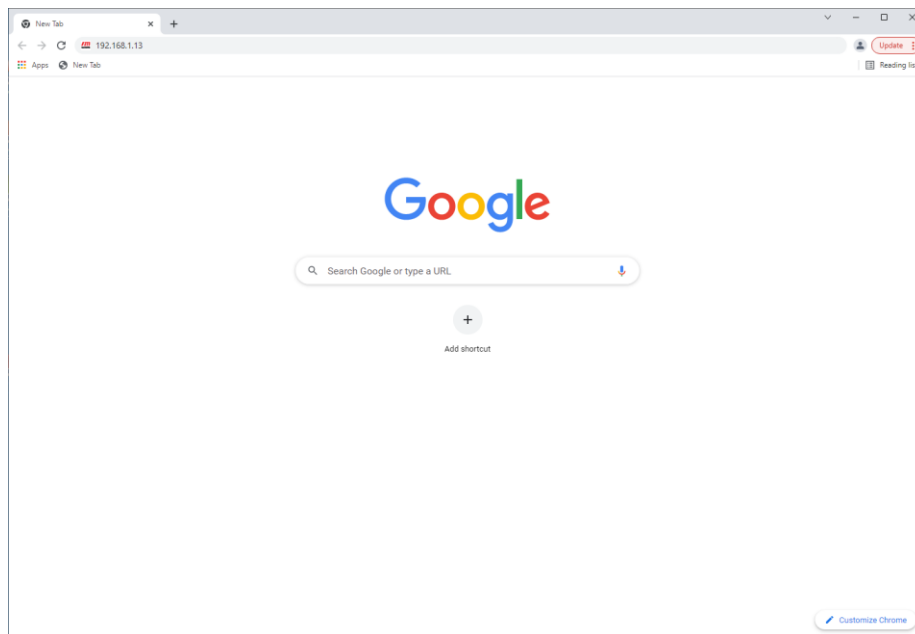

Figure 8.1 – Main Browser Screen
8.2.1 With the browser open, type in the default IP address (**192.168.1.13**) for the Model MS30-POE-S transceiver as shown in Figure 8.1.